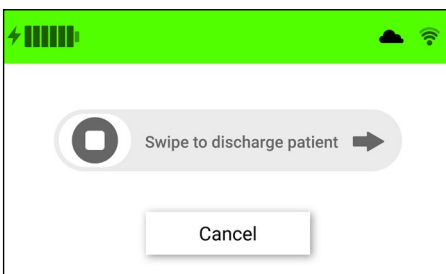

Figure 21. Confirm discharge screen
- A confirmation screen will appear. Swipe to discharge the patient. (Fig. 21)